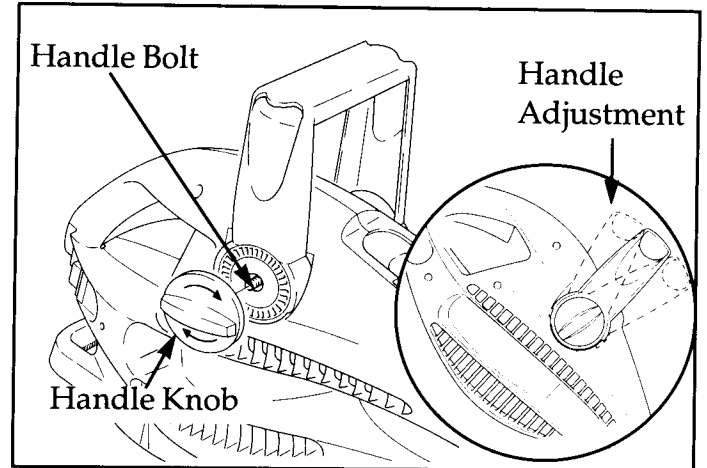

Figure 6
3. Locate handle onto handle bolts on each side of the product. Figure 6.
4. Secure handle by turning handle knobs clockwise. Figure 6.
5. The handle can be adjusted by turning handle knobs 3 full turns anti-clockwise, moving handle to position required and securing handle by turning handle knobs clockwise. Figure 6.